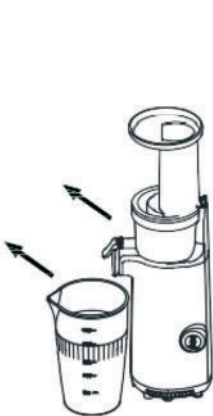

Fig.6
1. Remove the Juice and Pulp containers. (Fig 6)